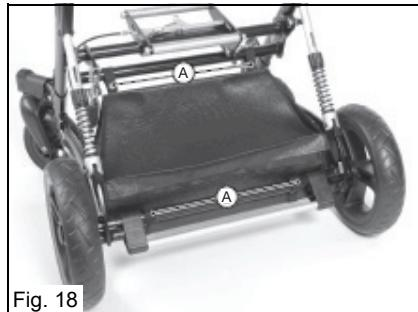
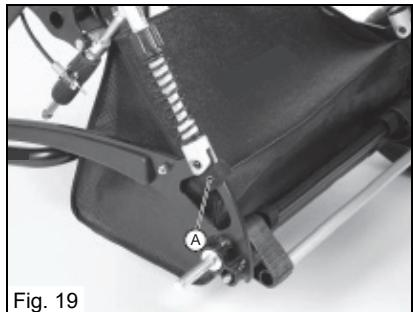

Fig. 18
Fig. 19
1. Fasten the storage bag to the frame using the snaps and hook-and-loop fasteners (Fig. 18:A & Fig. 19:A).